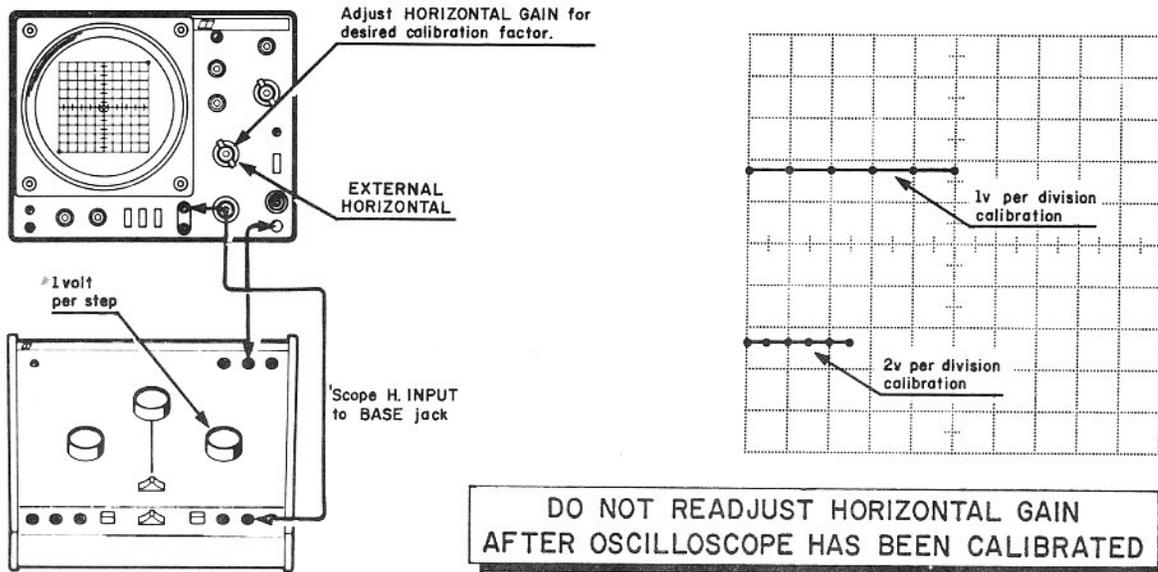

Figure 6. Oscilloscope Horizontal Calibration—Low Voltage
(Refer to Figure 6)
6. The display should resemble that shown in Figure 6, a series of six horizontal dots, and possibly a light horizontal trace between dots. Adjust the horizontal gain of the oscilloscope so the display fills exactly 5 divisions of the graticule. Adjust the horizontal and vertical centering controls as required.